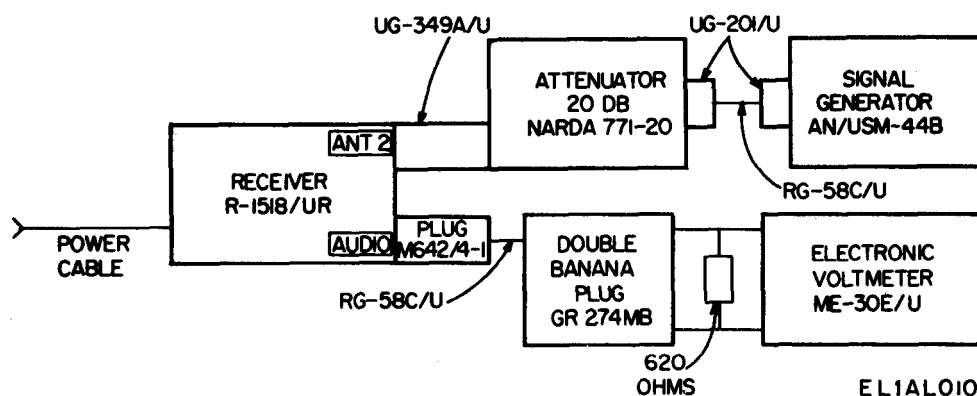

Figure 6-2. AM and CW sensitivity test connections.
(1) Perform a (1) above.
(2) Connect the test equipment as shown in figure 6-2.
(1) Perform a(l) above.
(3) Set the receiver controls as follows:
(4) Perform (6) through (9) below for the receiver and signal generator frequencies listed in c(4) above.
(5) Apply power to the signal generator and the electronic voltmeter and allow 15 minutes for warmup.
(6) Adjust the signal generator for a cw output at a level of 4 microvolt.
(7) Adjust the receiver TRIM control for a peak indication on the electronic voltmeter.
(8) Adjust the receiver VOL control for a 2.45 volts indication on the electronic voltmeter.
(9) Disconnect the signal generator from the attenuator. The electronic voltmeter should indicate 0.775 volt or less.
(10) Remove power from the receiver and disconnect the test setup.